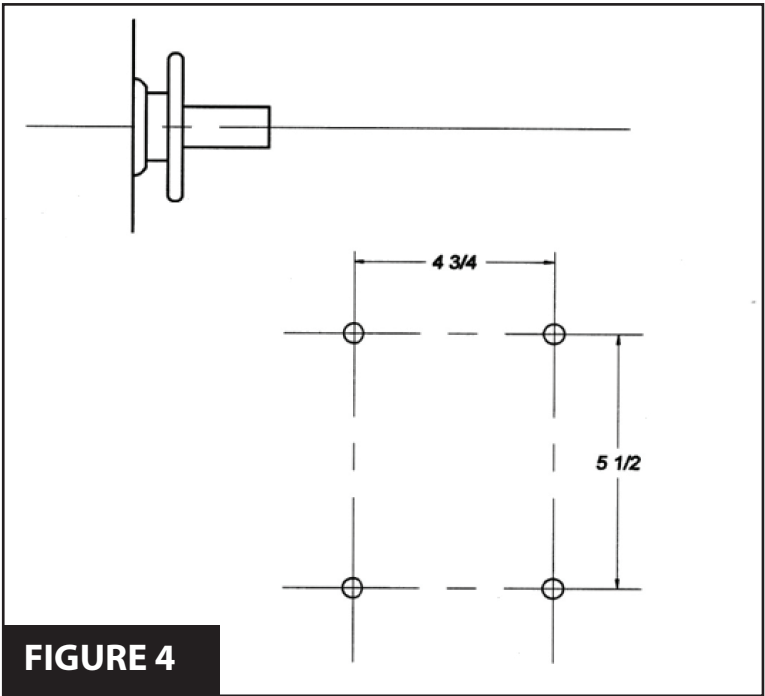

FIGURE 4
4. With the chain tight and straight and the operator's output shaft parallel with the door's torsion shaft, trace the mounting slots (holes) on the mounting surface, then lower the operator to the floor. The MG operator gear box mounting hole pattern is shown in **Figure 4**.